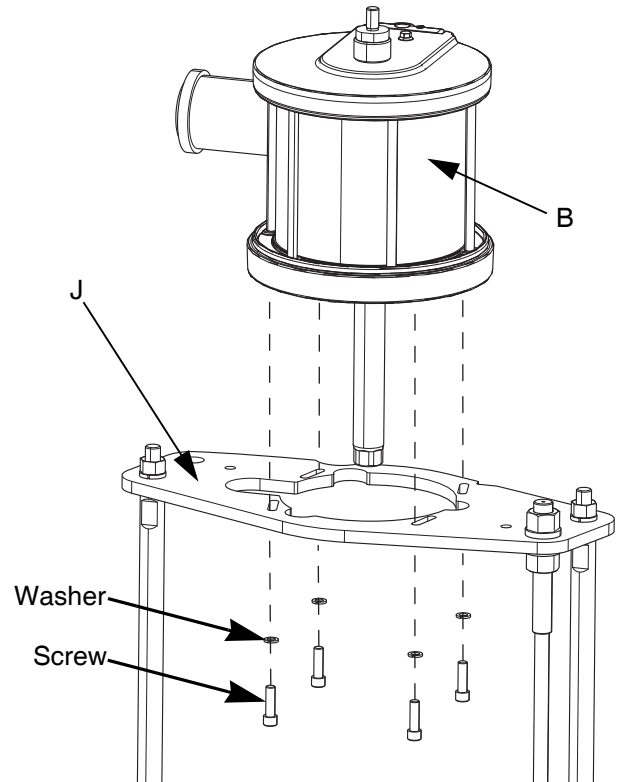

FIG. 29: Air Motor Disconnection
6. Disconnect air motor: Remove the screws and washers securing the motor (B) to the mounting bracket (J). See FIG. 29.
1. Attach the motor (B) to the mounting bracket (J) with screws and washers. Tighten the screws until they are flat against the lock washers. See FIG. 29.
2. Connect the air hose to the motor (B).